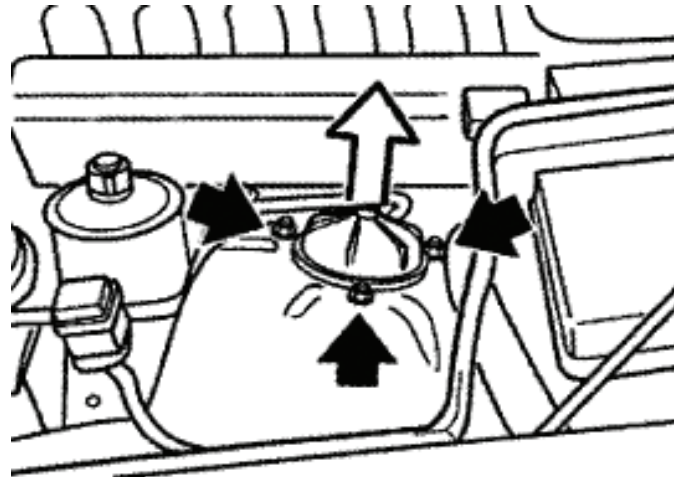

fig. 9
4. Remove the strut cap and unthread the three upper bracket nuts within the engine compartment (fig. 9).